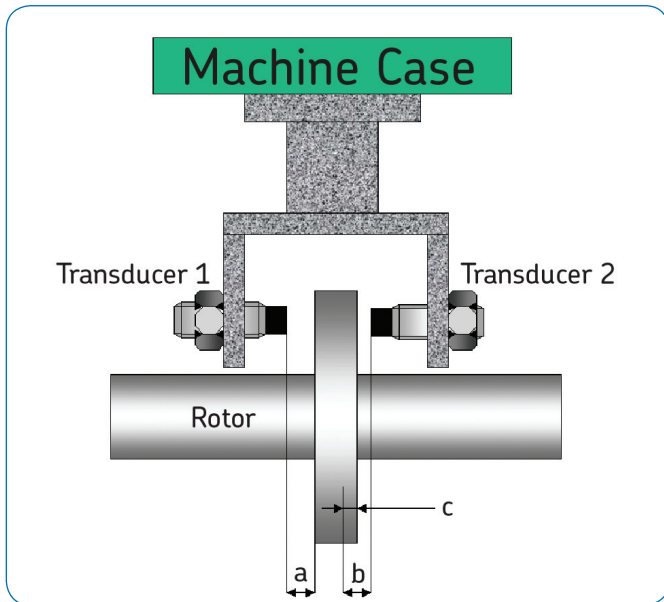

Figure 2.
In **fig. 2**, the second transducer is mounted closer to the collar, which will generate an area (c) where both transducers will measure the target.
- 1 Both probes are operating in their measuring range at the same time (→fig. 2).